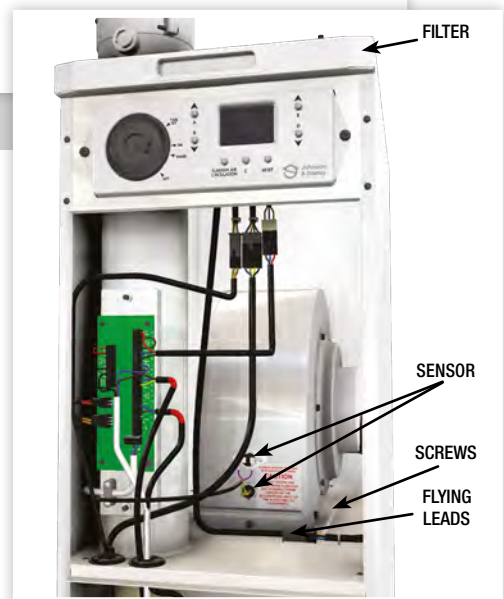

**FIGURE 21.**
- 16.7.3 Unplug the multi pin plug connections from the fan and remove the connector from the flue sensor. See Figure 21.